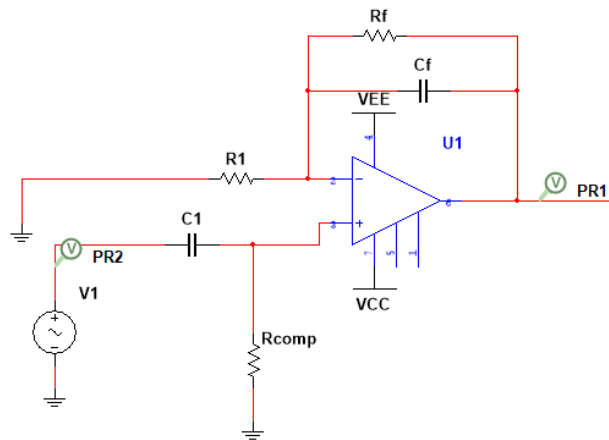

Fig 1.6: Op-Amp as Non-Inverting AC amplifier
2. The circuit is setup as shown in figure 1.6. The supply voltage ($\pm V_{CC}$) is set at $\pm 15V$. The input to the circuit is $1V_{(p-p)}$ AC supply.